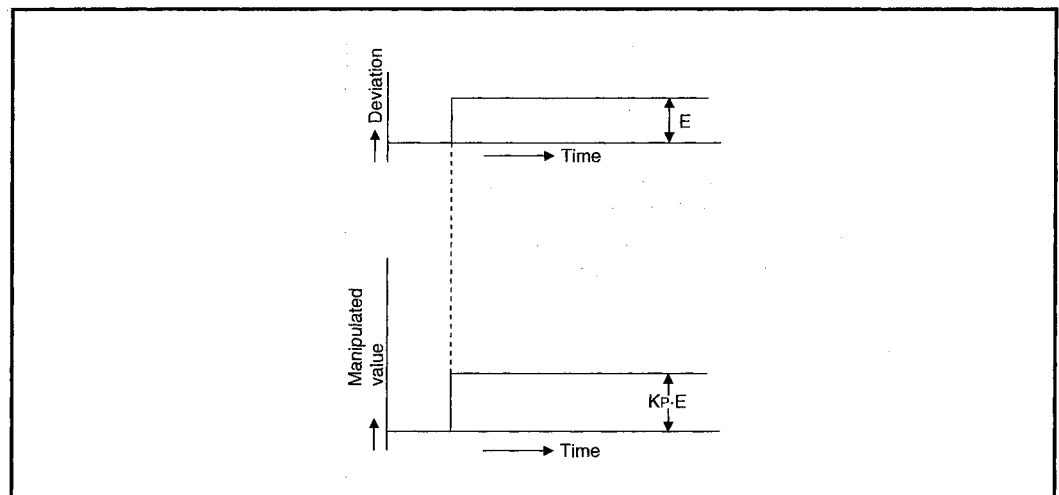

Fig. 1.8 Proportional action for step response
- (3) The proportional action for the step response when the error value is constant is shown in Figure 1.8.
- (4) The manipulation value changes between -5.0% and 105.0%. As the K_p increases, the manipulation value for the same error value becomes larger, and the corrective action becomes stronger.
- (5) The proportional action will generate an offset (remaining deflection).